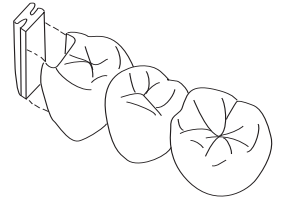

Fig. 28
1. Wax the abutment and pontics, being certain to leave an adequate receptacle for soldering the male component (Fig. 28).